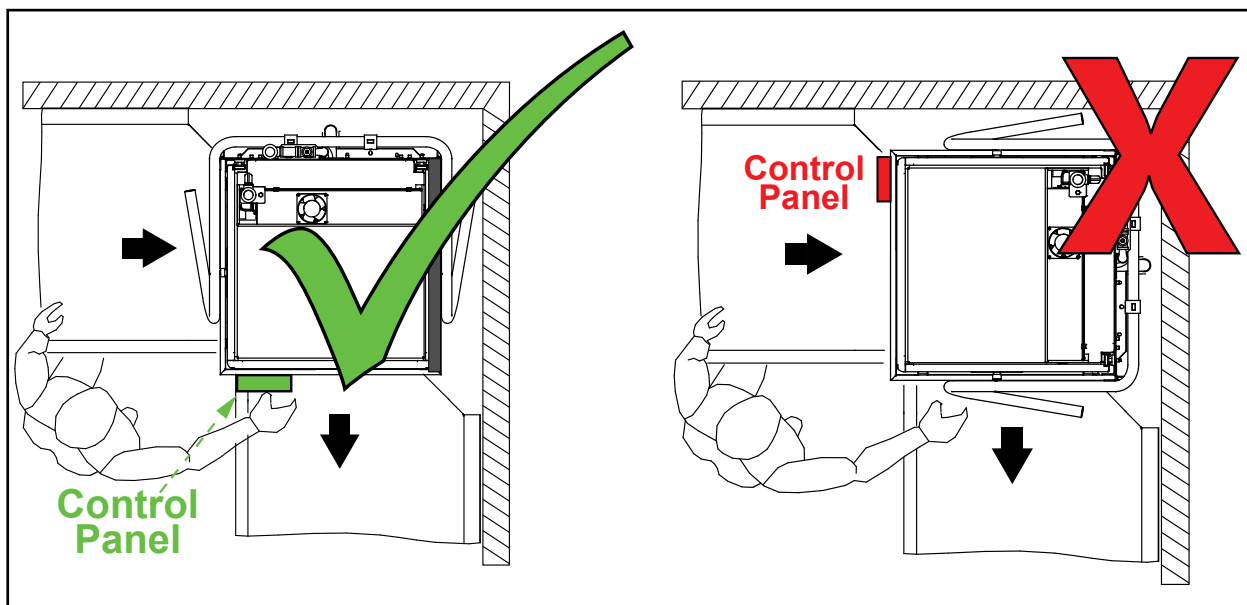

Fig. 5 - Control panel must be accessible from the front.
- The control panel must be accessible from the front, (Fig. 5).